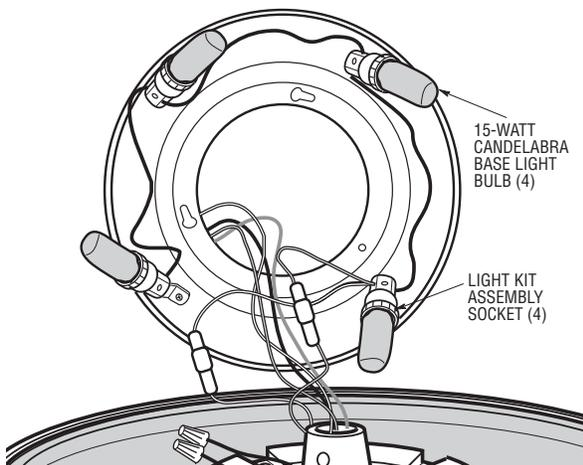

Figure 9
- 16. Install four 15-watt candelabra base light bulbs in the light kit assembly sockets (Figure 9).